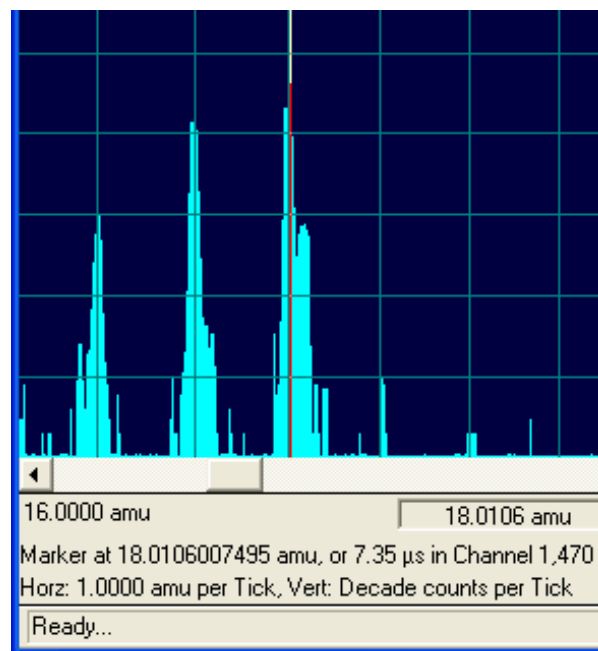

Fig. 50. Results of Marker Command.
**Marker** reports the current marker position on the Supplementary Information Line near the bottom of the display (see Fig. 50).